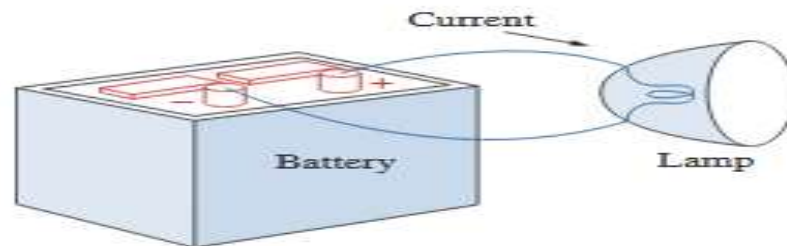

Fig. 1.1
- A simple electric circuit is shown in Fig. 1.1. It consists of three basic elements: a battery, a lamp, and connecting wires. Such a simple circuit can exist by itself; it has several applications, such as a flash- light, a search light.